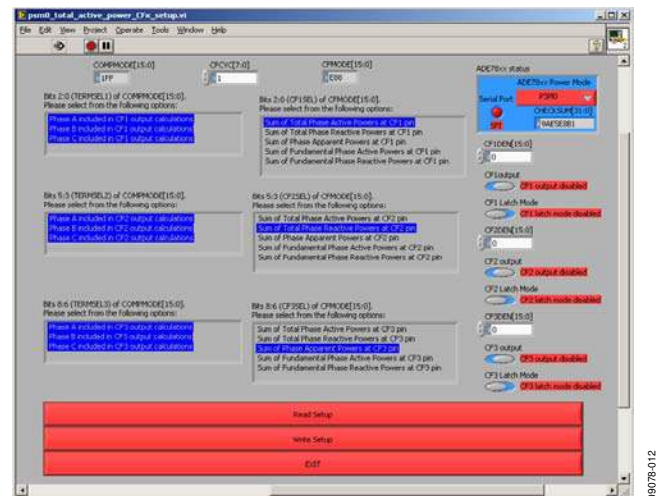

Figure 12. CFx Configuration Panel
3. Click the **CFx Configuration** button to open a new panel (see Figure 12). This panel gives access to all bits and registers that configure the CF1, CF2, and CF3 outputs of the ADE7878. The **Read Setup** and **Write Setup** buttons update and display the CF1, CF2, and CF3 output values.